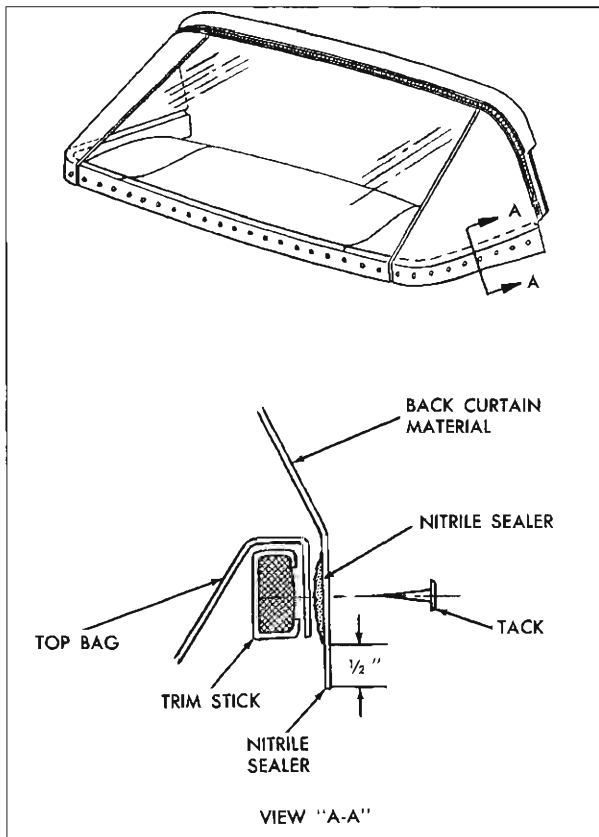
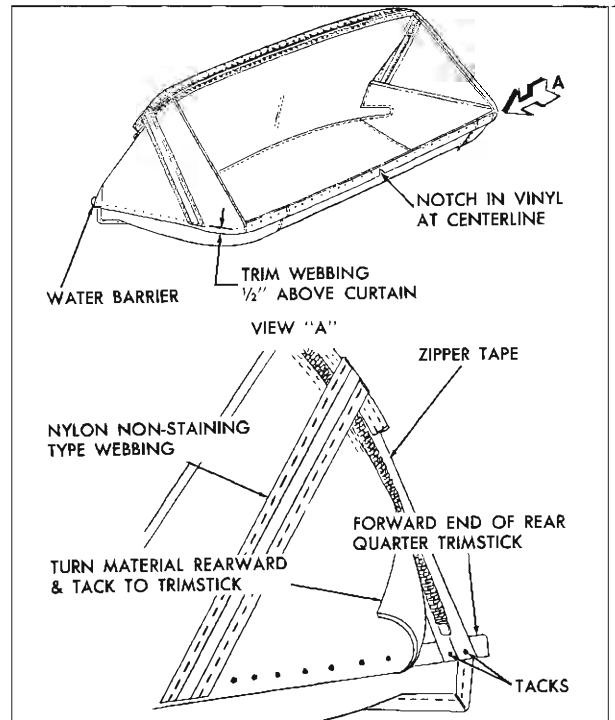

Fig. 21-41 Back Curtain Sealing
Fig. 21-42 Back Curtain Installation
6. Place back curtain window assembly on clean covered work bench with exterior (vinyl) surface of back window valance facing down. (Large pliable back window must be handled carefully to avoid possible damage due to scratches, abrasions, etc.) Apply bead of convertible top sealer (nitrile) along lower edge of back curtain material in area which will be tacked to rear and rear quarter trim stick. (View "A-A" in Fig. 21-41).
7. Apply bead of convertible top sealer (nitrile) along lower selvage edge of back curtain material (Fig. 21-41).
**NOTE:** Notch in back curtain vinyl at lower edge indicates centerline of back curtain assembly. (Fig. 21-42). In addition on all Pontiac and Tempest styles, back curtain lower edge should extend  $\frac{1}{2}$ " below lower edge of trim sticks as shown in view "A-A", Fig. 21-41.
arrow in Fig. 21-42).
rear quarter trim stick, turning forward edge of material rearward to form a water barrier (Fig. 21-42).
rear trim stick. New webbing may be cut from a piece of non-staining type webbing 2" x 19". Excess webbing should be trimmed off at rear trim stick, 1/2" above back curtain lower edge (see Fig. 21-42).